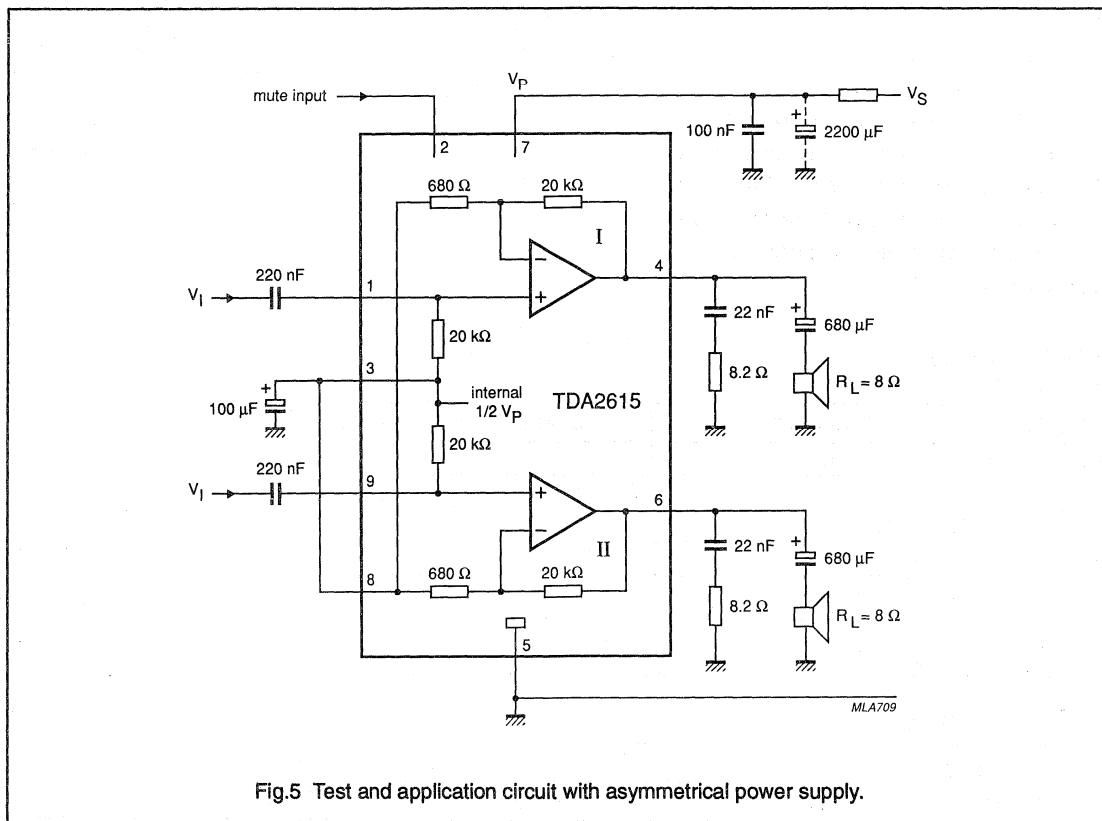

Fig.5 Test and application circuit with asymmetrical power supply.
- $V_p = 24 \text{ V}$; $R_L = 8 \Omega$; $T_{\text{amb}} = 25 \text{ }^\circ\text{C}$; $f = 1 \text{ kHz}$; asymmetrical power supply $I_{\text{MUTE}} < 30 \mu\text{A}$. See Fig.5